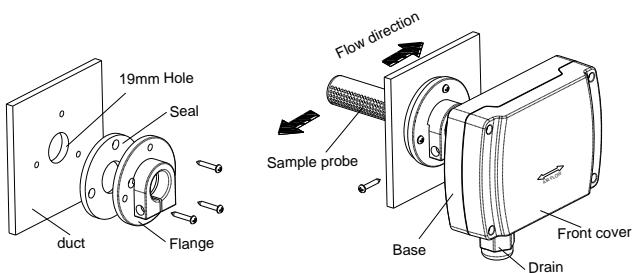

Fig.2
1. Install via the flange as Fig.2. Drill a  $\phi$  19mm hole on the duct, install the seal ring and the flange on, then insert the probe into, screw to lock the whole enclosure on the flange.